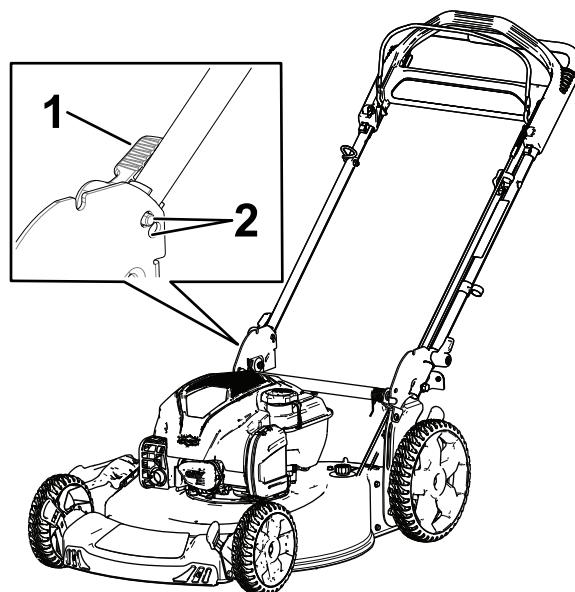

Figure 4
3. Set the handle lock in 1 of the 2 positions (Figure 4) until the pin clicks in place to lock the handle into the operating position.